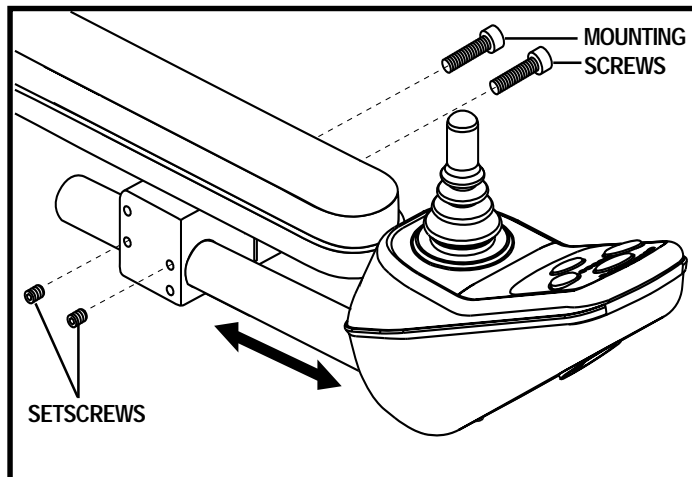

Figure 17. Controller Position Mounting Bracket
**NOTE:** If your power chair is equipped with a Specialty Seat, Synergy Seat, or TRU-Balance Power Positioning System, loosen the mounting screws in the mounting block, transfer the mounting block and controller to the opposite armrest, and tighten the mounting screws. See figure 17 .